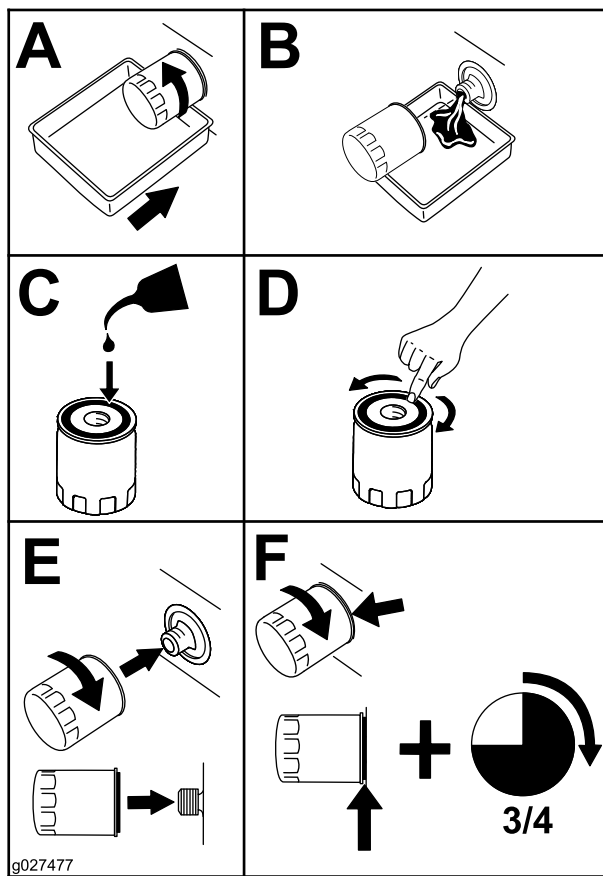

Figure 48
4. Change the engine-oil filter (Figure 48).